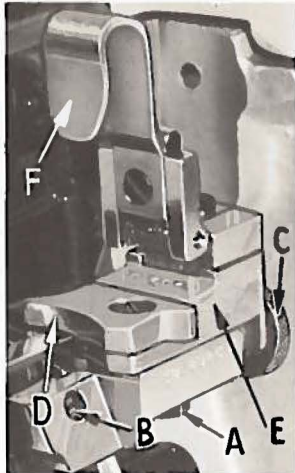

Fig. 17
NOTE: Be sure that lock screw (A, Fig. 17) has been loosened, then proceed as follows:
Assemble the hemming guide support bracket onto the lower knife support bracket by means of screw (B, Fig. 17). With the knurled adjusting screw (C), set the edge guide (D) so that the left side of its tip is even with and parallel to the right side of the right feed slot in the throat plate.
When the edge guide tip is in this position, the front or leading edge should be slightly to the right of parallel. This adjustment can be made by positioning the stop screw (A, Fig. 18) located towards the front of the hinge block and edge guide support bracket (E, Fig. 17).
For example, as in going over seams. The amount of movement and the pressure applied to the edge guide tip can be set by removing lock screw (B, Fig. 18) and adjusting the screw which presses against the spring and pin, located in the hinge block and edge guide support bracket (E, Fig. 17). Replace lock screw and tighten securely.
Adjust the edge guide (D, Fig. 17) by turning the knurled adjusting screw (C) so that the stitches are located in the folded edge, yet do not show on the face of the fabric. At this point retighten screw (A, Fig. 17) securely.
Adjust the overhanging guide (F, Fig. 17) so that the space between its guiding edge and the edge guide (D) corresponds with the thickness of the material to be hemmed. Loosen set screw (C, Fig. 18) and holding screw (D), now move the hinge block (E) to obtain the proper distance between the edge guide and the overhanging guide. Retighten screws (C) and (D). Remove lock screw (F) and adjust stop screw that is in front of lock screw, so that the tip of the overhanging guide is located at the center of the edge guide vertically. Replace lock screw (F) and tighten against stop screw.